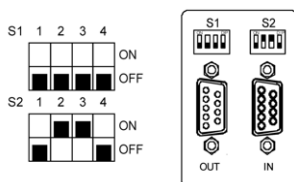

Fig 3: Multi Link Port settings
- Straight serial DB9F-DB9M cable (p/n SK02) for newer models of the Midas autosampler (with the Multi Link Ports, see **Fig 3** on pg **4**.). Older models require the serial cross DB9F-DB25M cable (p/n SK03).